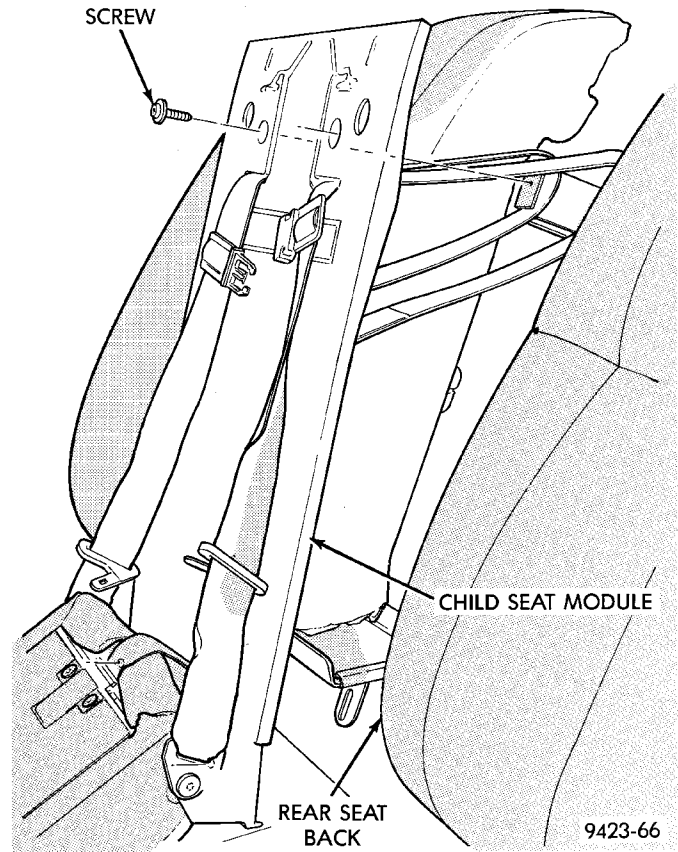

Fig. 5 Child Seat Module
- (1) Remove rear seat back from vehicle.
- (2) Slide lower bolster cushion retainer from channel on child seat cushion.
- (3) Separate lower bolster from seat child seat.
- (4) Remove liner from child seat module.
- (5) Disengage push-in fasteners holding upper bolster to child seat module above shoulder belts.
- (6) Remove screws holding top of child seat module to seat back frame from behind shoulder belts.
- (7) Remove screws holding bottom of child seat module to seat back frame (Fig. 5).
- (8) Separate child seat module from seat back.